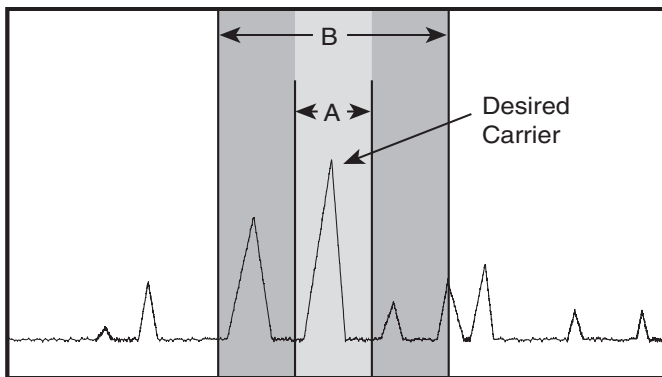

Figure 6: Desired Bandwidth
the potential for off-frequency interference. Figure 6 illustrates how a receiver with a narrow front end bandpass opening (A) has a much better chance of receiving the incoming signal than receiver (B) with its wide front end bandpass opening.